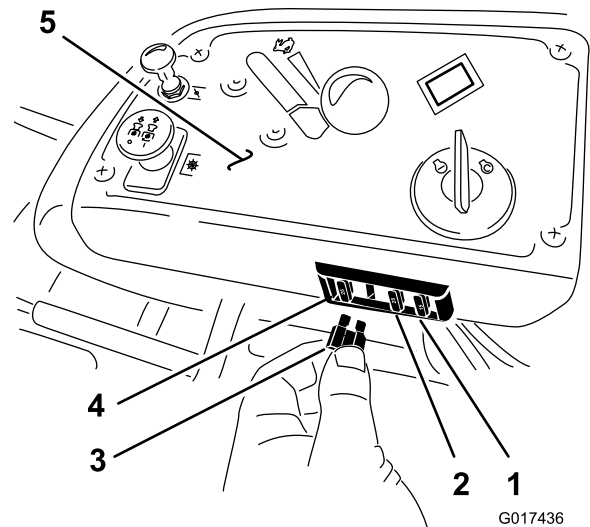

Figure 48
1. The fuses are located on right hand console next to the seat (Figure 48).
3. Install a new fuse (Figure 48).